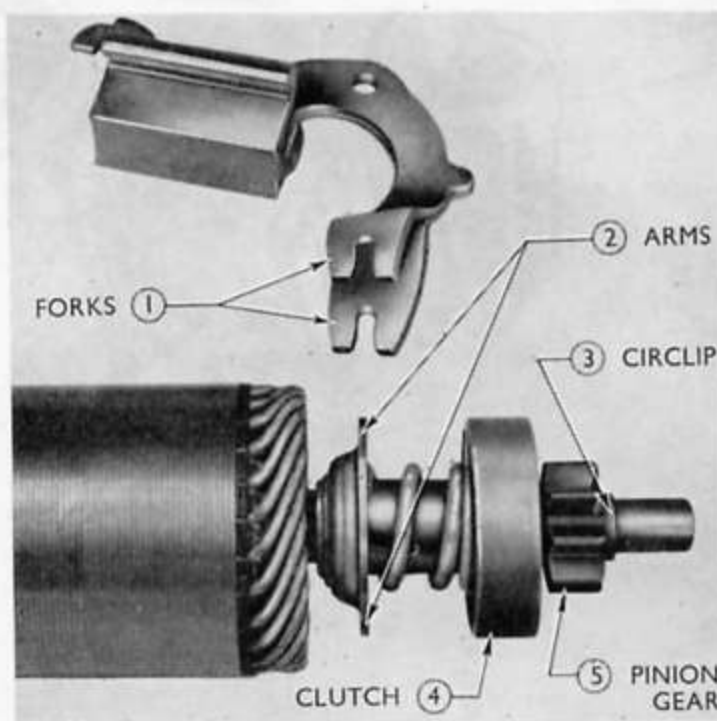

Fig. 18
5. Install the moving pole shoe on the starter yoke, engaging the forked end with the arms on the drive pinion (see Fig. 18) and replace the pivot pin.